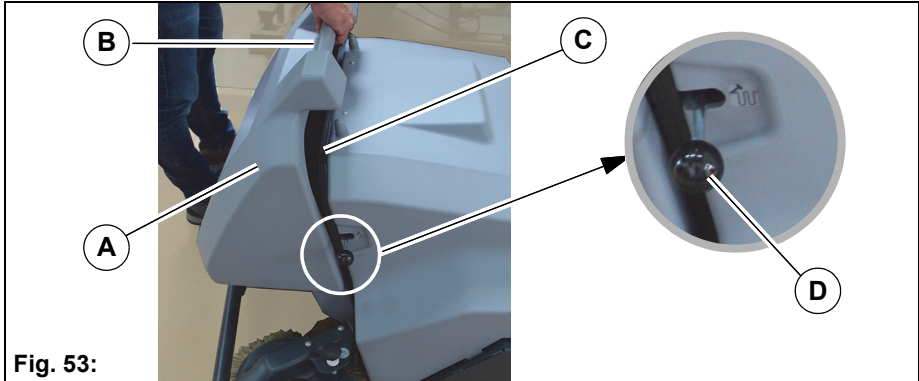

Fig. 53:
2. Pull the dirt hopper **Fig. 53-A** upwards using the handle **Fig. 53-B** and dispose of the contents in an environmentally friendly way.
Inspect the dirt hopper seal **Fig. 53-C** weekly and replace if wear is present.
Clean the filter **Fig. 54-B** several times per day using the shaking system **Fig. 53-D**.
2. Remove the dirt hopper **Fig. 53-A**.